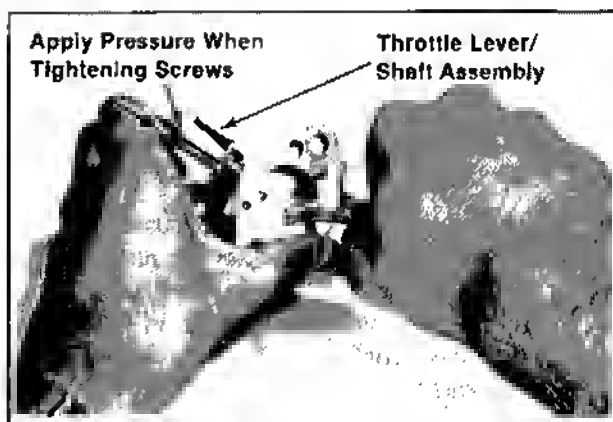

Figure 6B-10. Installing Throttle Lever/Shaft.
3. Apply finger pressure to the throttle lever/shaft to keep it firmly seated against pivot in carburetor body. Rotate the throttle shaft until the throttle plate fully closes the bore around its entire perimeter; then tighten screws. Refer to Figure 6B-10.